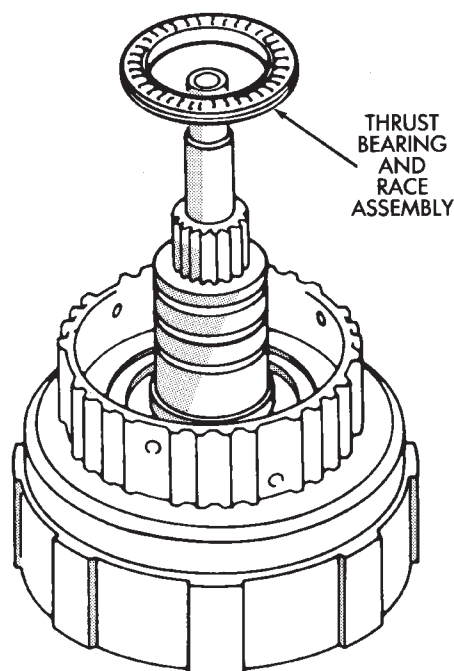

Fig. 9 Removing Clutch Drum Thrust Bearing Assembly
(17) Remove thrust bearing and race assembly from clutch drum (Fig. 9).